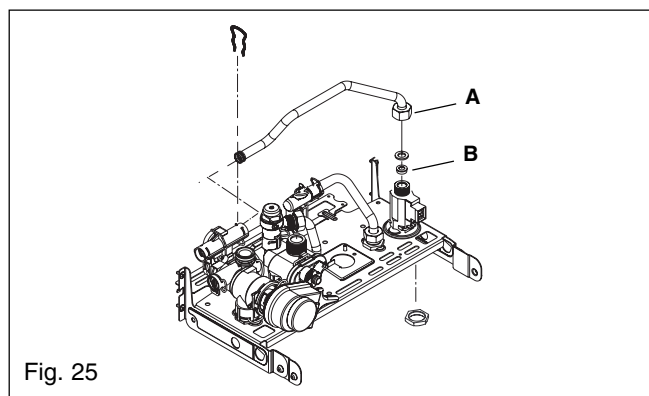

Fig. 25
6.19 FLOW RESTRICTOR fig. 25
6.20 DHW FLOW SWITCH fig. 25